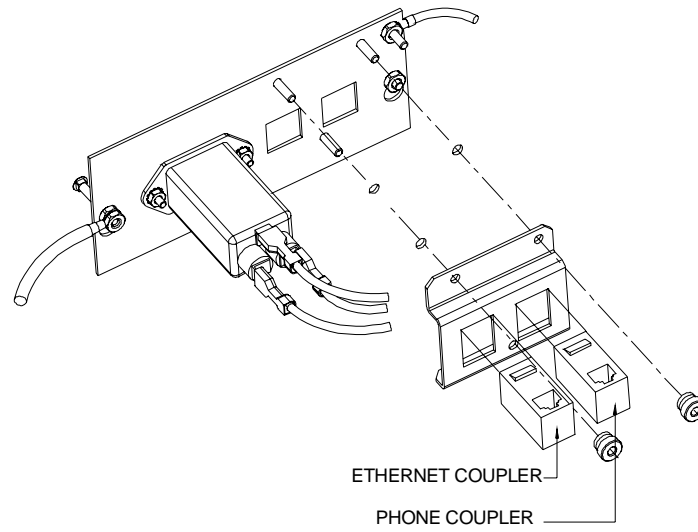

FIGURE 28 - MAXX UPRIGHT - POWER ENTRY ASSEMBLY
34. **A games:** Secure the provided coupler retention bracket with 2 thumbnuts. Then orient the supplied, snap-in Ethernet coupler and insert it into the left access hole in the coupler retention bracket and the phone coupler in the right. See Figure 28.